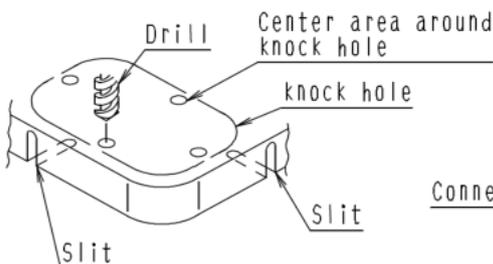

Fig. 5
- When connecting in a downward direction, open the knock out hole by making 4 round holes around the knock out hole by using a φ6mm drill. (See Fig. 5)